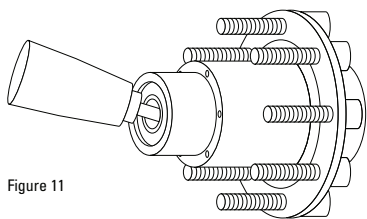

Figure 11
6.) Fill the hub through the hubcap or the fill hole with oil. It may be necessary to add lubricant more than once to adequately fill the hub (see Figure 11).